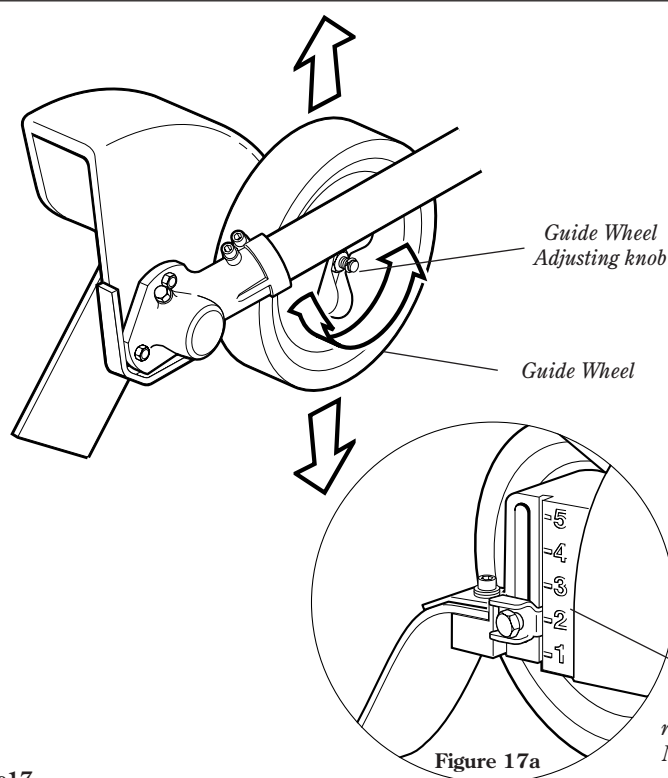

Figure 16
- Begin each pass by positioning the unit over the work, and with the engine running at about half-throttle. Slowly lower the blade to the ground while applying full throttle. See Figure 16.